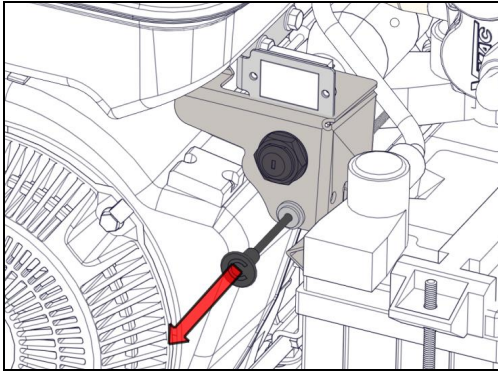

Figure 17 - Choke
- 1) Pull the choke to the “ON” position (Figure 17).